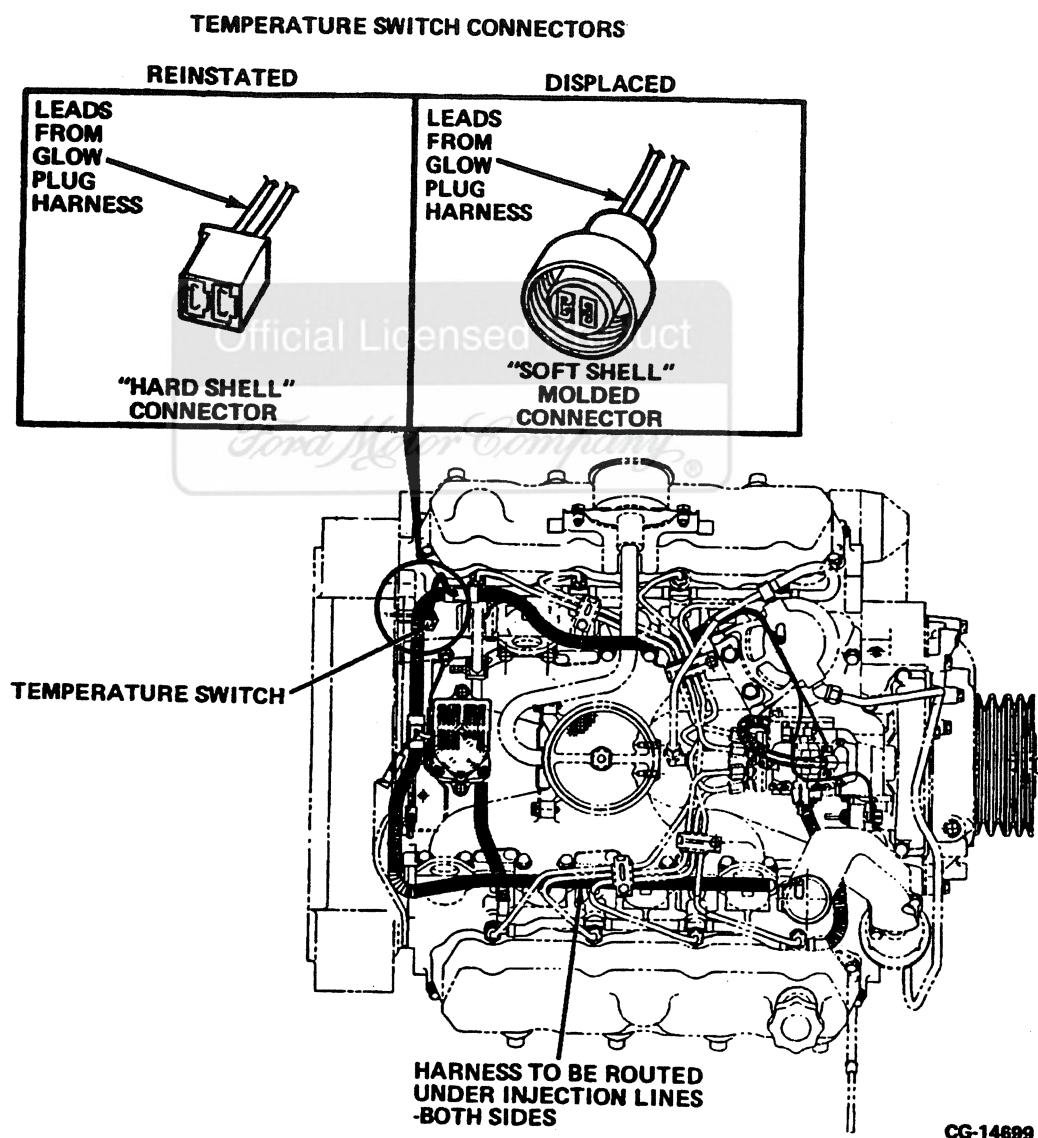

Figure 9.51A. Temperature Switch Connectors and Location
**NOTE:** Effective on 7.3 Diesel Engines with S/N 777 968 and above, the glow plug harness assembly is revised, reinstating a "HARD SHELL" connector for the coolant temperature switch. The "HARD SHELL" connector replaces the "SOFT SHELL" molded connector. Refer to **Figure 9.51A**.